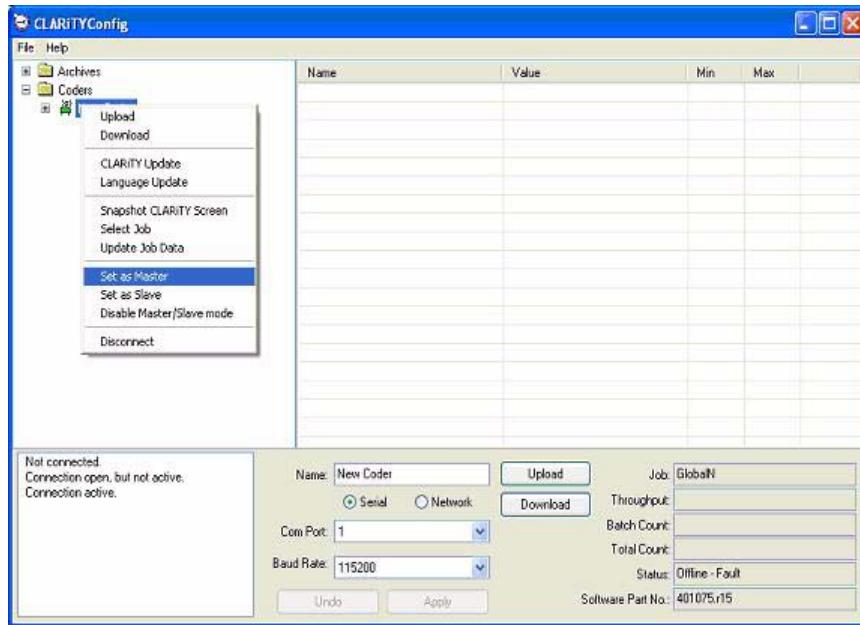

Figure 10-12: CLARiTY® Config - Master Setup
- 2 Right click on the 'New Printer' icon when the icon turns 'green' and Select 'Set as Master', from the list as shown in Figure 10-12.